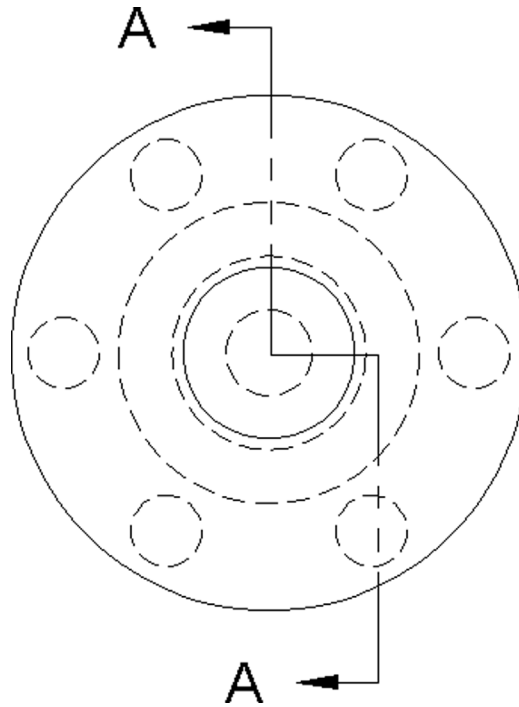

FIGURE 27.14 Offset section.
Step 2. An A and an arrow, the start of a section designator, is attached to your mouse movements. Click your way down the main top view, as seen in Fig. 27.14. Note how the section lines pass through several of the cutouts in the model. Seeing those cutouts in the section is usually of interest to the designer, so be sure to trace a path that reveals useful information, not just a random cut.